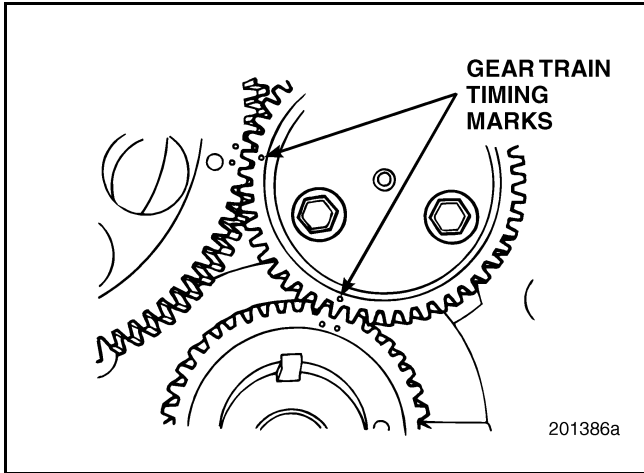

Figure 355 — Timing Marks Properly Aligned
4. Position the idler gear timing marks so they align (Figure 355) with the crankshaft and camshaft gear timing marks. Then, slide the idler gear/hub assembly into position on the cylinder block.